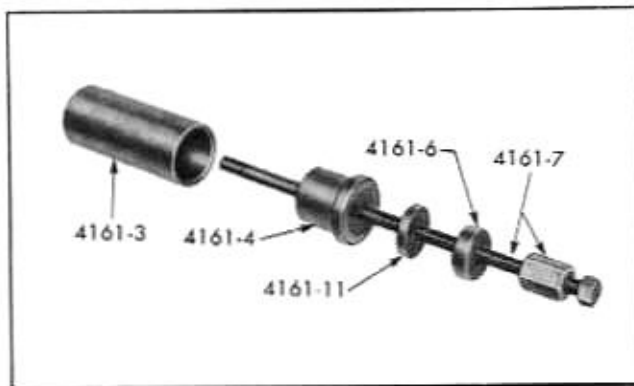

Fig. 4-54 Component Parts of Bushing Replacer Tool J-4161-A
a. Oil threads and insert screw and nut assembly 4161-7 through thrust bearing 4161-6, washer 4161-11, flanged adapter 4161-4, and large sleeve 4161-3 (Fig. 4-54).
a. Oil threads and insert screw and nut assembly 4161-7 through thrust bearing 4161-6, washer 4161-11, flanged adapter 4161-4, and large sleeve 4161-3 (Fig. 4-54); then slip small sleeve 4161-10 into large sleeve.